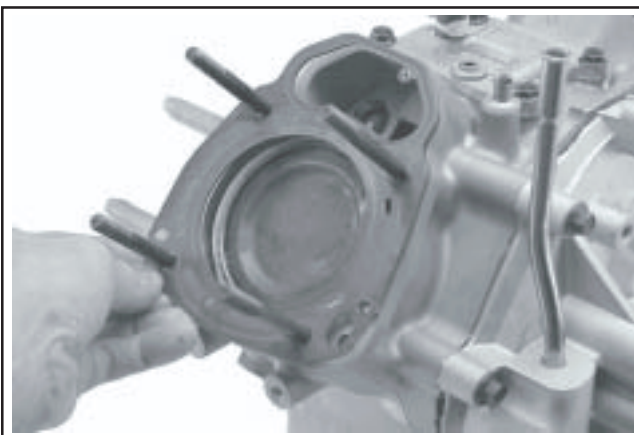

Figure 11-33. Installing Head Gasket.
3. Install a new cylinder head gasket. See Figure 11-33.